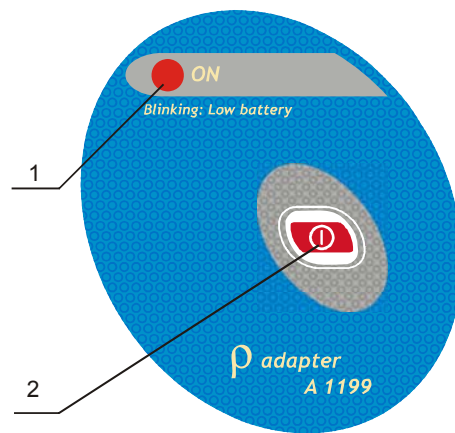

Figure 3.2: Front panel
- Press a key on the ρ -adapter. LED (*pos. 1 on figure 3.2*) must light.